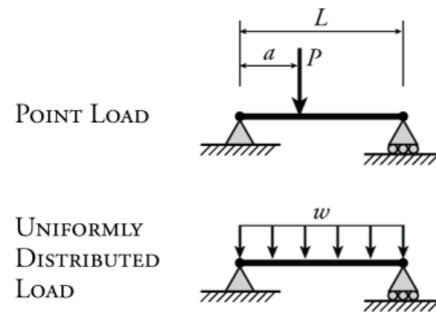

Figure 2. Point and Distributed Loads on a Beam [2]
- a is the a dimension in the Point Load image shown in Figure 2.
Equations like this are derived and readily available for standard load cases such as point loads and distributed loads acting on a beam, as shown in Figure 2.